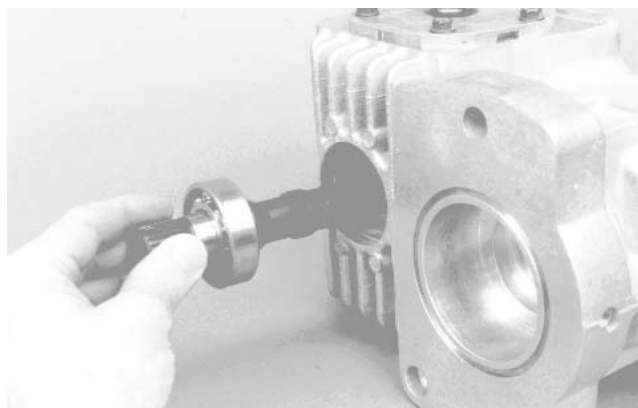

Figure 59
7. Press ball bearing onto pump shaft. Install pump shaft and bearing assembly into housing (Fig. 59).